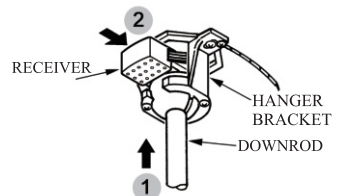

FIG.4
2. Carefully lift the fan and seat the down rod ball assembly on the hanger bracket. Be sure the groove in the ball is lined up with tab on the hanger bracket. Do not pinch wires between the ball and down rod assembly and hanger bracket (see Fig.4)